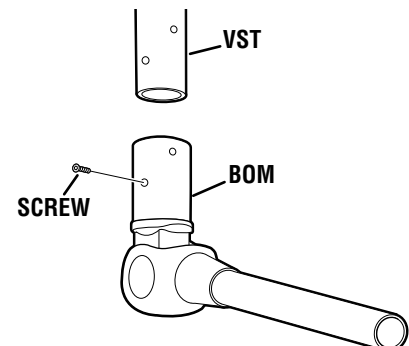

Figure 4. Balance Mechanism
a. Install the VST on the BOM, apply Blue Loc-Tite to screw threads and secure VST with the allen screws provided. See figure 4.